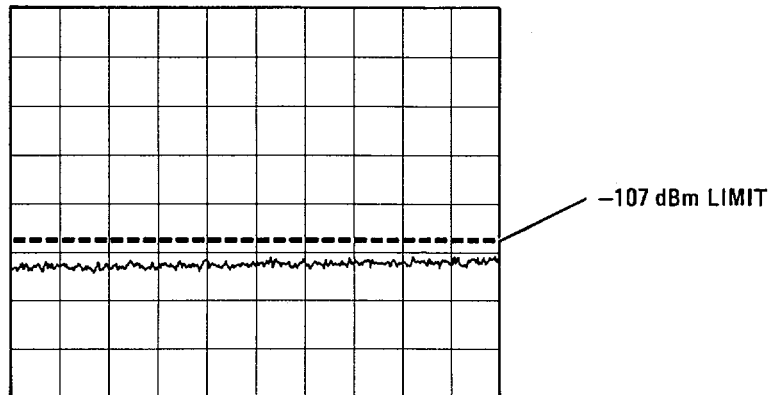

Figure 4-12. Average Noise Level Measurement
2. Adjust TUNING until LO feedthrough is not on screen. Set VIDEO FILTER to MAX (not in detent) and observe CRT display of noise level from 1 MHz to 1000 MHz. Noise level, as shown in Figure 4-12, should be less than - 107.
001: Change '- 107 dBm' to '- 100 dBm' throughout procedure and in Figure 4-12.
002: Change '- 107 dBm' to '- 53 dBmV' throughout procedure and in Figure 4-12.